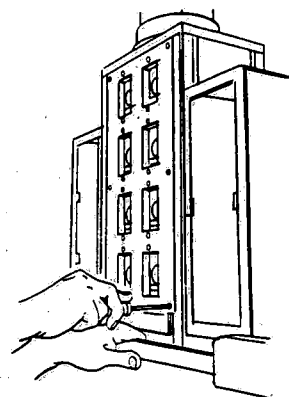

Figure 6-15. Reattach Gas Outlet Assembly
6. Remount the gas outlet assembly and secure it into position with its six attaching screws (see Figure 6-15).
3. Remount the gas outlet assembly and secure it into position with its six attaching screws (see Figure 6-15).